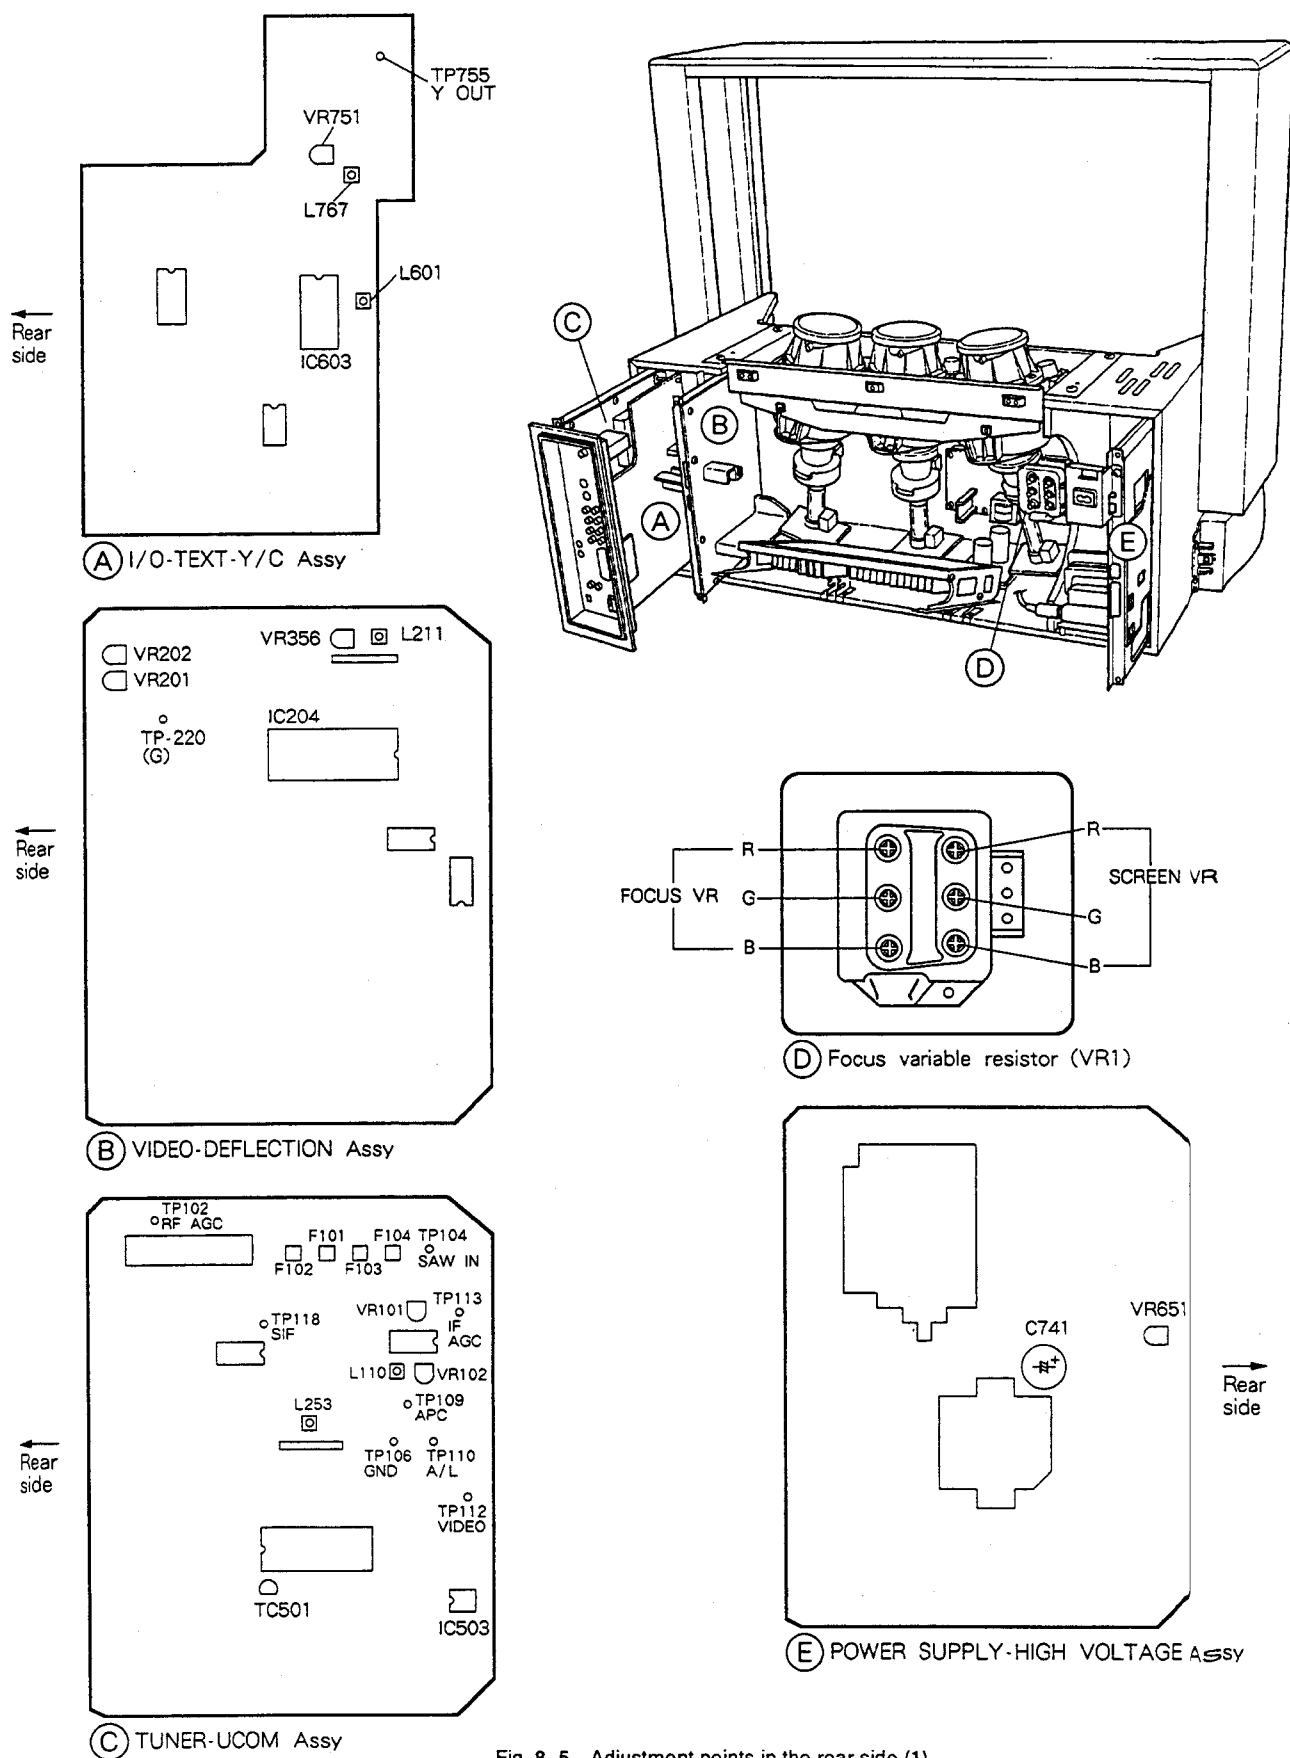

Fig. 8-5 Adjustment points in the rear side (1)
- Adjustment points and test points on are shown in Fig. 8-5 through Fig. 8-8.